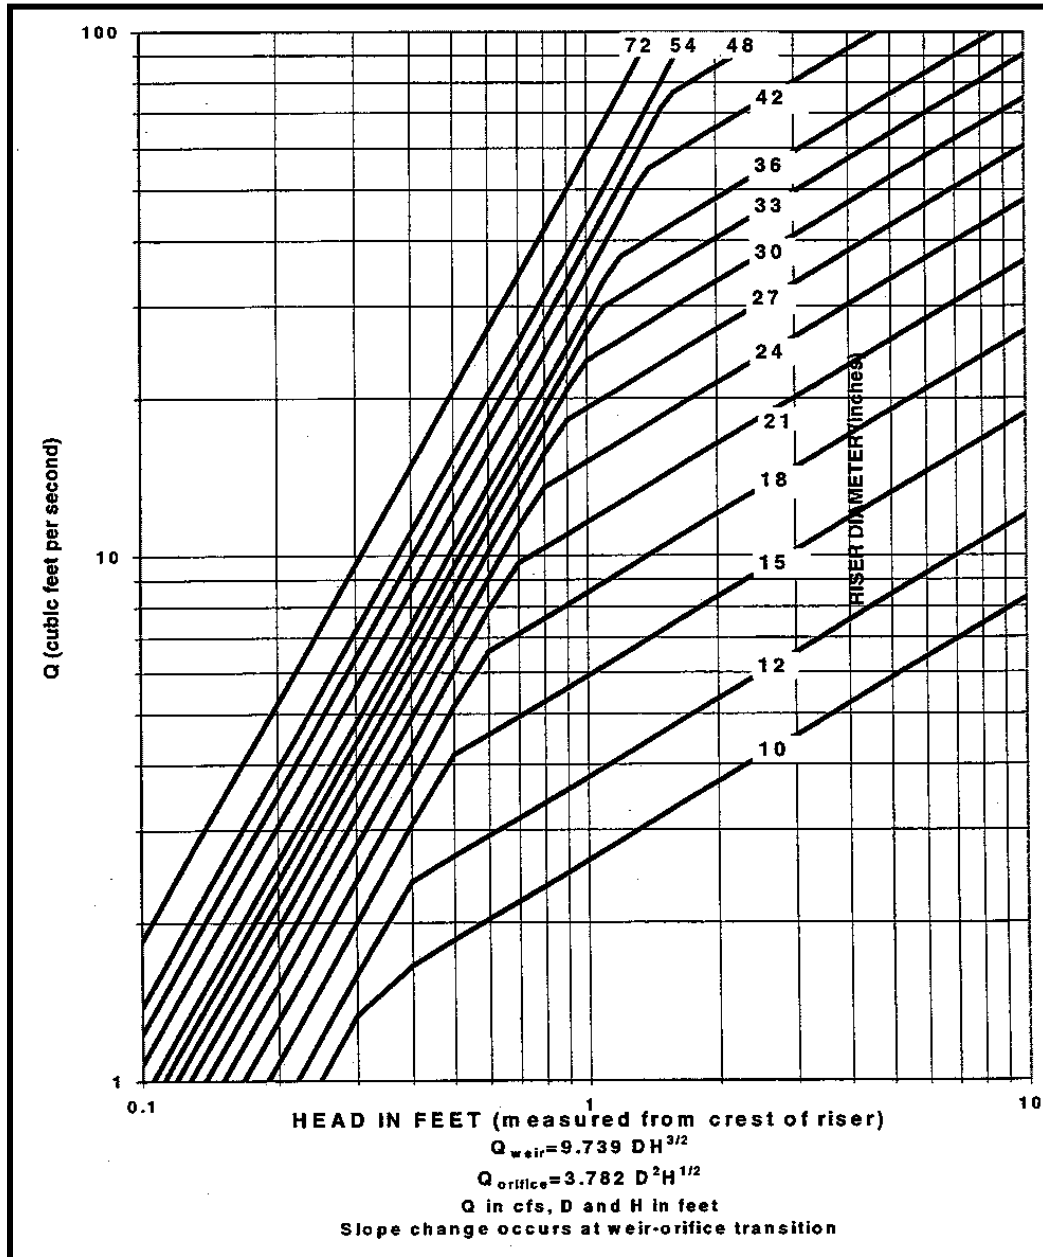

Figure E.4. Riser Inflow Curves.
- A sharp crested overflow weir shall be used to provide for overflow of the detention BMP and should be analyzed for the developed 100-year peak flow discharge (Figure E.4).
Figure E.4 illustrates this simplified application of the orifice equation.
The combined orifice and riser (or weir) overflow may be used to meet performance requirements; however, the design shall still provide for overflow of the developed 100-year peak flow assuming all orifices are plugged. The nomograph in Figure E.4 can be used to determine the head (in feet) above a riser of given diameter and for a given flow. For design requirements on overflows, refer to *Volume 3, Section 4.3.4*.